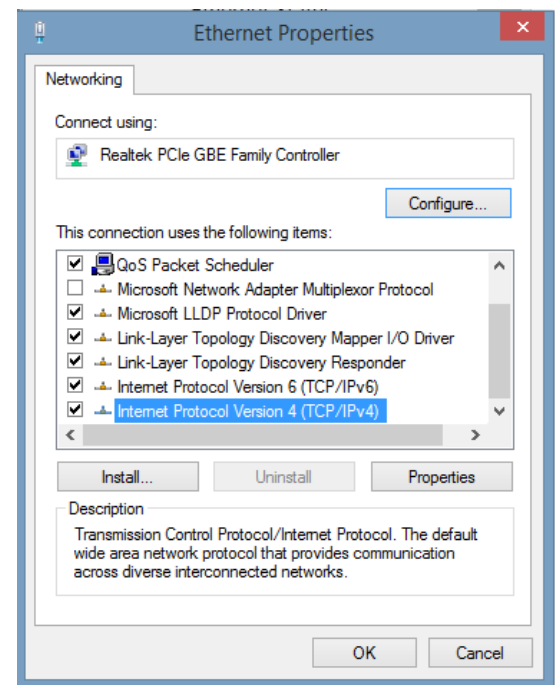

Fig. 2-40, Local Area Connection Properties Screen, Windows 10
6. You will see a dialog box much like **Fig. 2-40**; click **Internet Protocol (TCP/IPv4)** and then click the **Properties** button.